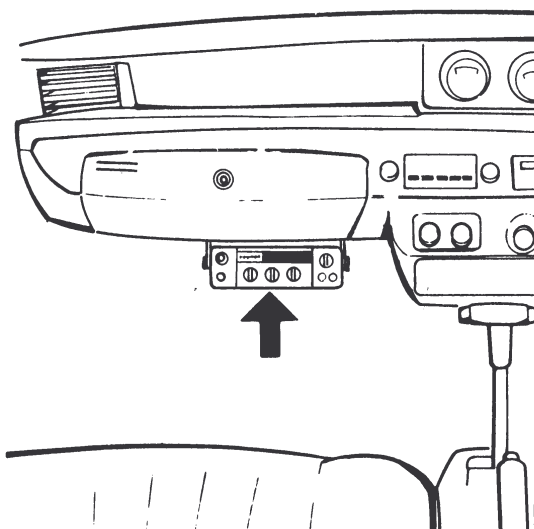

Fig. 1 An example showing mounting position
The best possible positions for the mounting are shown in Fig. 1. Do not expose the set to direct sunlight.
2) Turn the three SYNTH knobs to the desired receiving frequency until it is displayed. (See Fig. 1.)